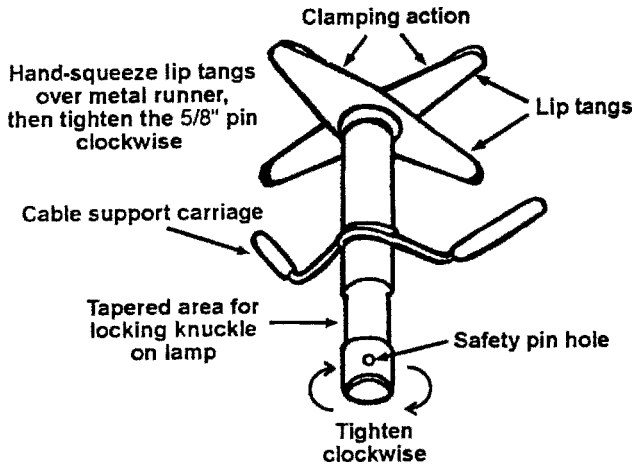

Figure 2.22 Drop ceiling clip.
2. As its name suggests, the drop ceiling mount is designed to scissor open and close over the conventional T-bar drop ceiling frames (Figure 2.22).